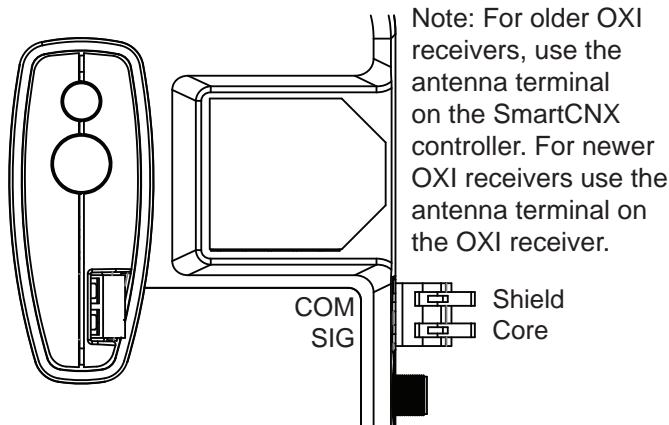

Figure 49. OXI Antenna Terminal
3. Install a whip or coaxial antenna into the OXI antenna terminal for better range (Figure 49). Mount any external antenna onto the top of a fixed fence post near the operator.